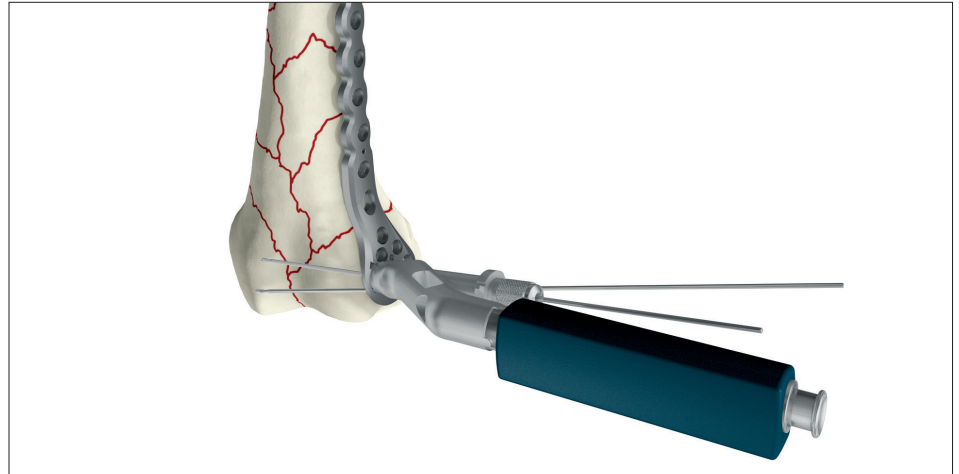

Fig. 11
A K-wire Ø2.0mm x 315mm (ref 703561) can now be inserted through the cannulation of the adaptor nut and the plate adaptor to help secure the plate to the bone (fig. 11).